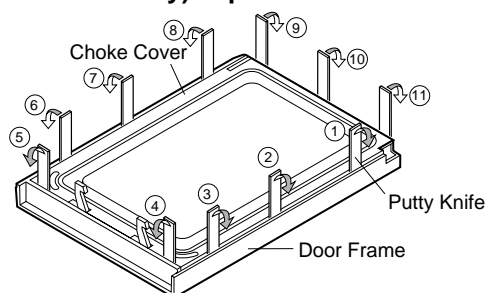

Figure C-5. Door Disassembly
3. Insert a putty knife (thickness of about 0.5mm) into the gap between the choke cover and corner portion of door panel as shown in Figure C-5 to free engaging parts.
4. Pry the choke cover by inserting a putty knife in order shown in figure C-5.